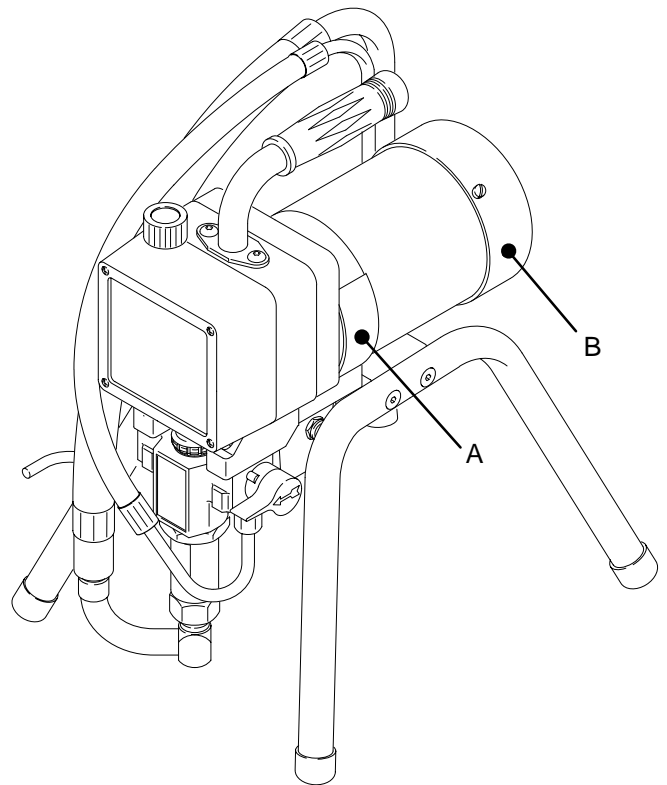

Fig. 11 **Model 820-169 Shown**
Remove the motor brush inspection covers (A). See Fig. 11.
Remove the fan cover (B). See Fig. 11.